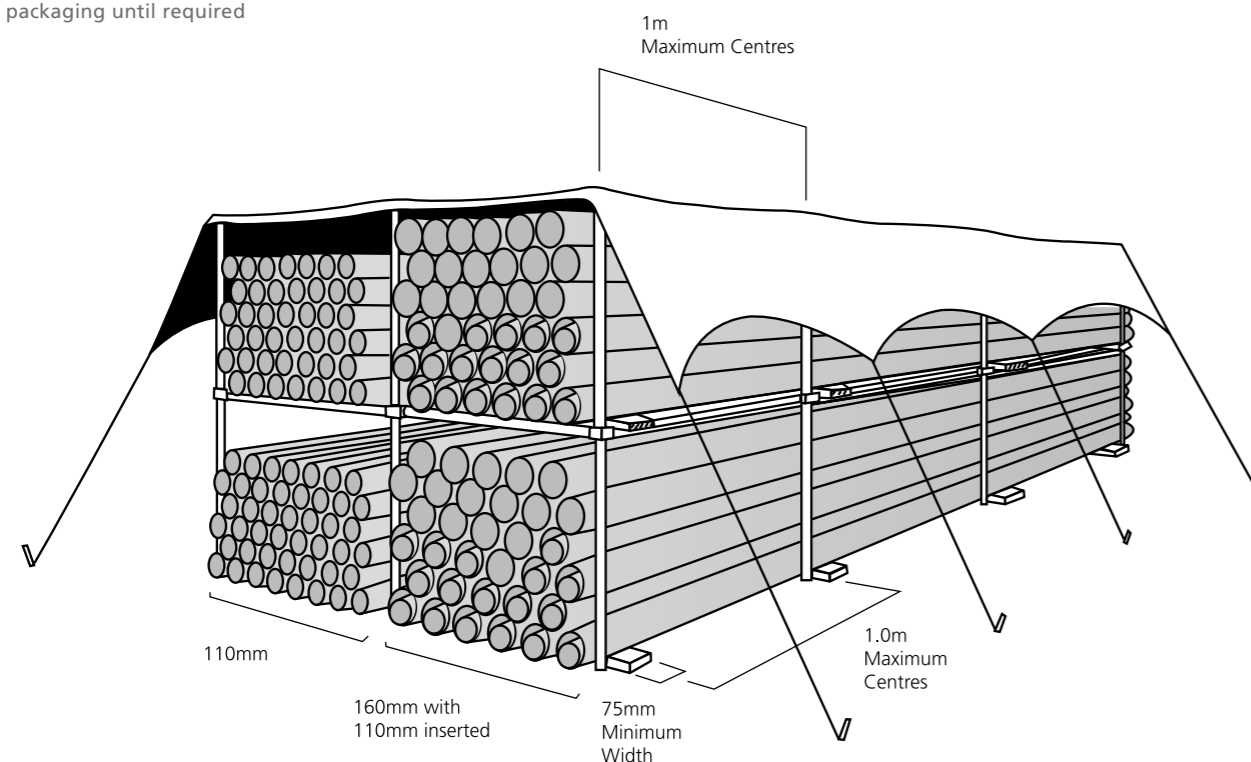

Fig. 1 Pipe stacking
- or on 75mm x 75mm timber at 1m centres (Fig. 1)
- Provide side support with 75mm wide battens at 1m centres (Fig. 1)